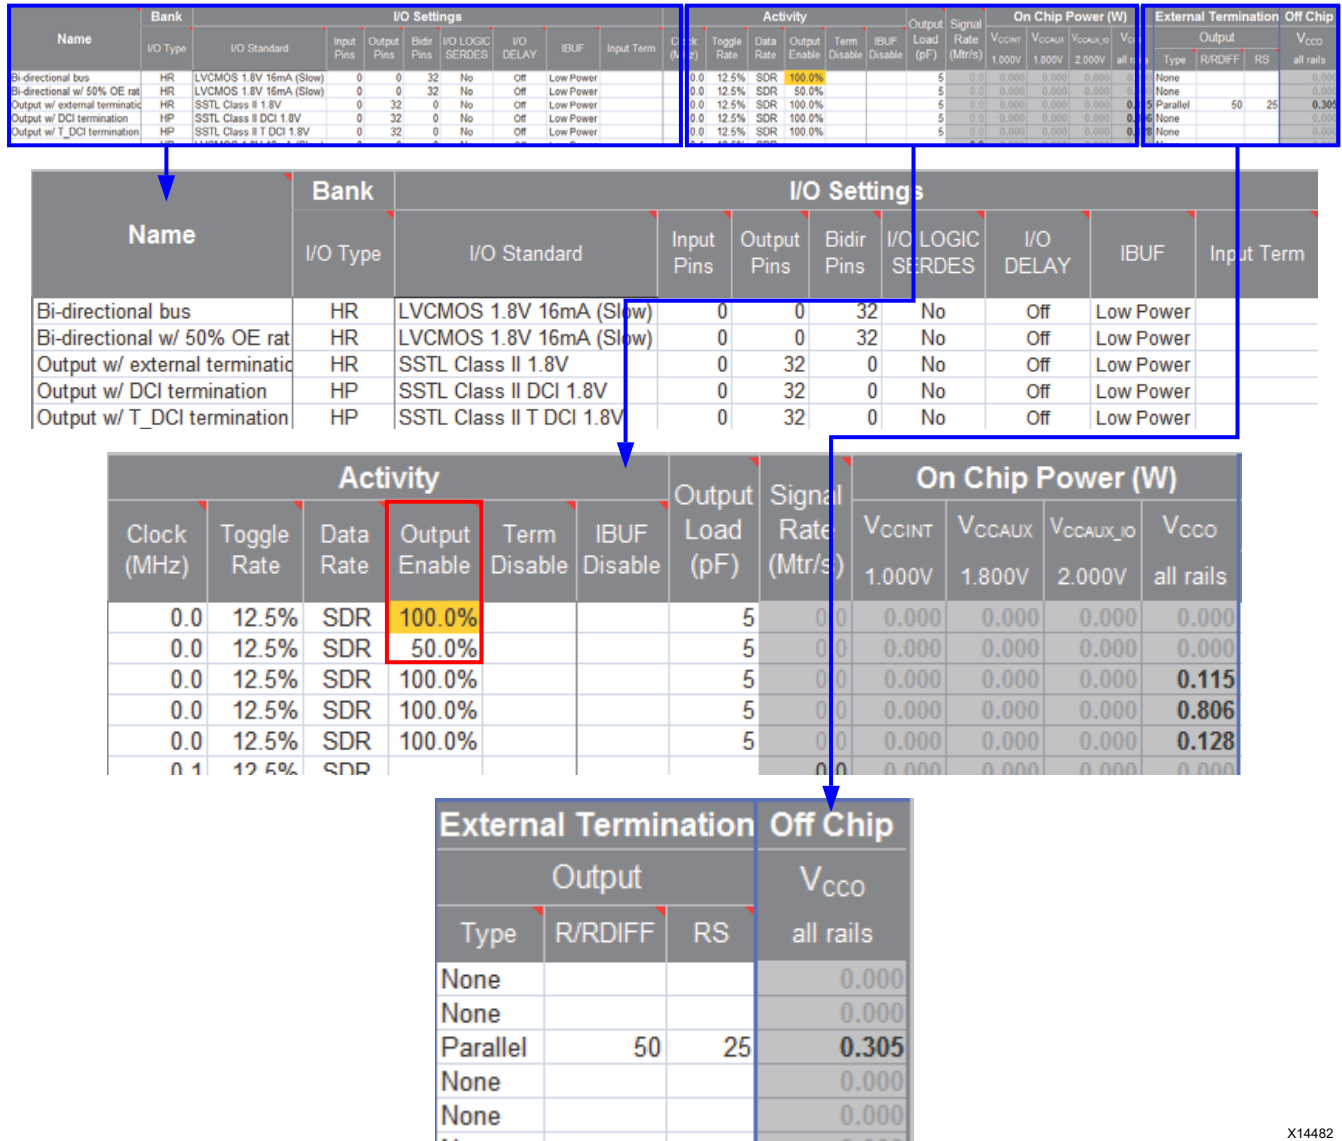

Figure 3-7: I/O Sheet - Effect of Output Enable Rate on Power Estimates for Inputs, Outputs, and Bidirectional I/Os (7 Series Devices)
**TIP:** As shown in Figure 3-7 (red frame) for line 1 and 2, setting **Output Enable** to **100%** is a common mistake which degrades the tool accuracy.